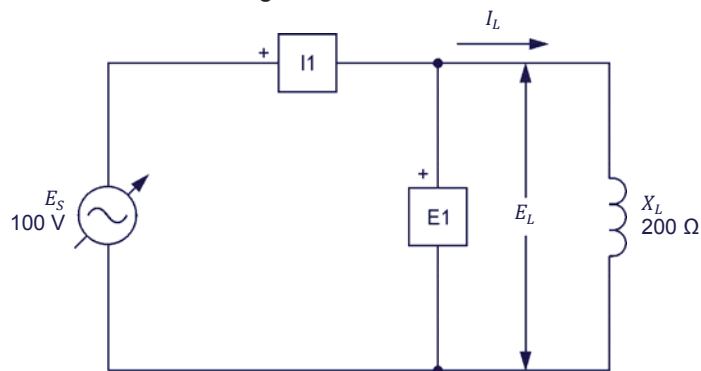

Figure 3-6. AC circuit containing an inductor and set up for power measurements.
22. Set up the circuit shown in Figure 3-6.